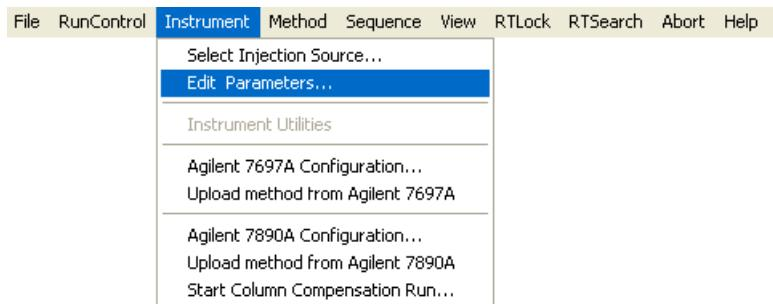

Figure 12 Opening the Method Editor
- 1 Open the **Method Editor**. Select **Instrument > Edit Parameters...** (Figure 12).